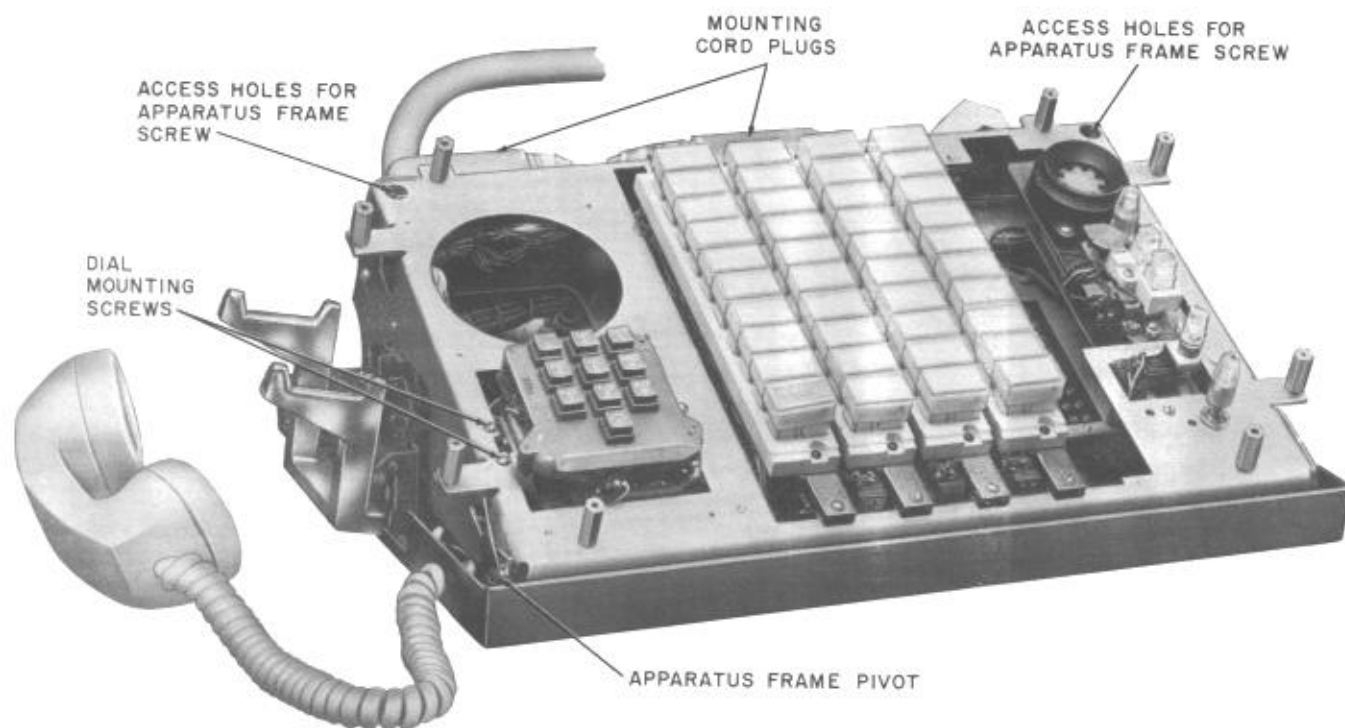

Fig. 6—Nurse Console, Assembly
- (1) Remove housing.
- (2) Loosen cord clamp.
- (3) Loosen apparatus frame captive screws through access holes (Fig. 6).
- (4) Apparatus frame pivots on pins riding in slots at front corners of console. Tilt frame toward front of console. Frame can be lifted out of slots and laid carefully on faceplate. Slack must be provided in mounting cord.
- (5) When replacing apparatus frame, carefully lift frame and engage pins in slots on base.
- (6) Lower frame toward rear of console. Guide brackets with pins are provided to engage slots on the frame to position frame properly.
- (7) Tighten captive screws through access holes.